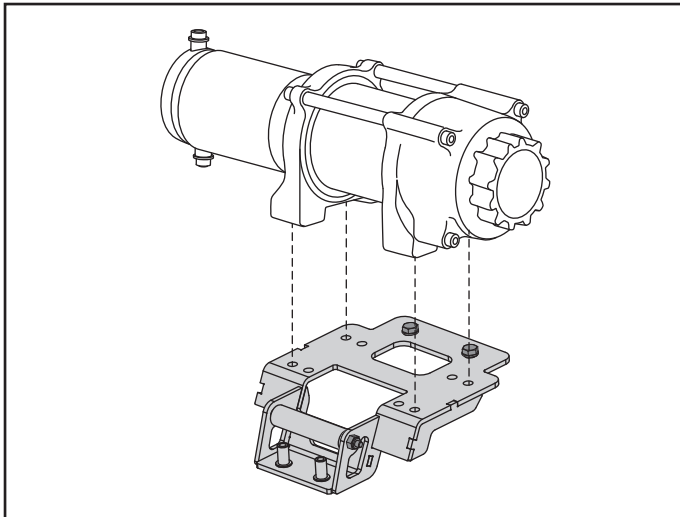

Figure 4.
5. Install your winch with the hardware included with your winch. See figure 4.